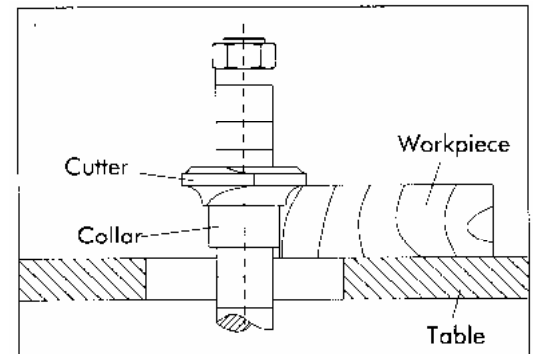

Fig.4.6
1. When the collar is used below the cutter, as shown in Fig.4.6, the progress of the cut can be seen throughout the operation. However, any accidental lifting of the work will gouge the wood and ruin the work-piece.